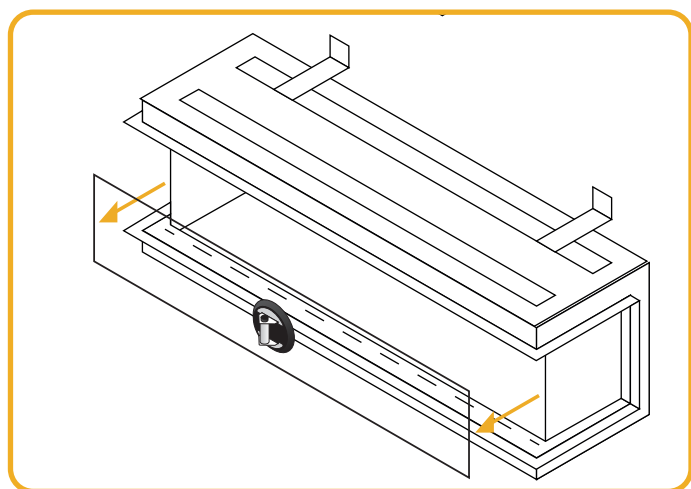

Figure.9.4 | Carefully remove the glass
- Carefully remove the front glass. See Figure 9.4. For bigger models like the 150e, 180e and 240e it is recommended to do this with two people.